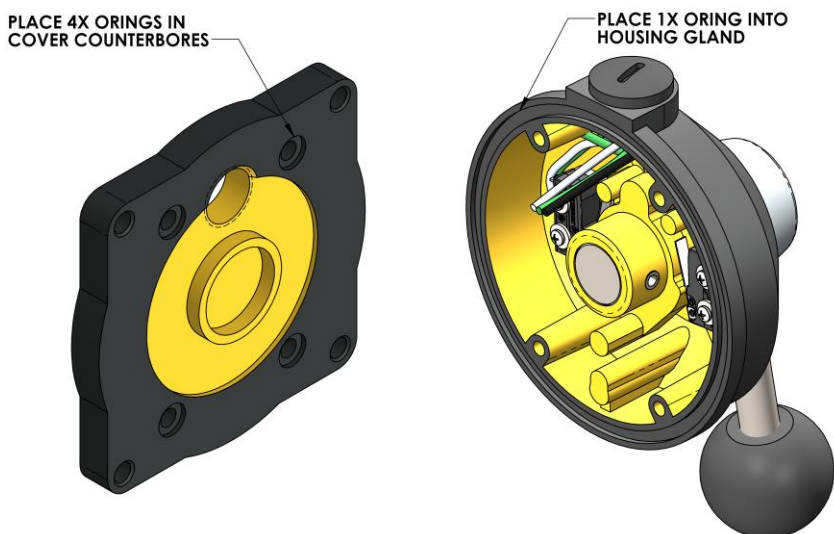

Figure 29: Oring placement on cover and housing
37. Place the 4X 3/16" ID O-rings into the counterbores on the cover as shown in Figure 29.
38. Place the 3-1/4" ID O-ring into the gland on the housing as shown in Figure 29.